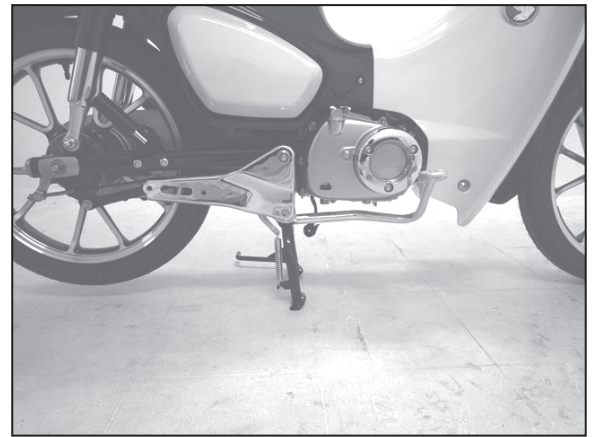

FIG. 1
- 2) According to Honda Service Manual, remove Footrest. Then, remove stock exhaust system (See Fig. 1).